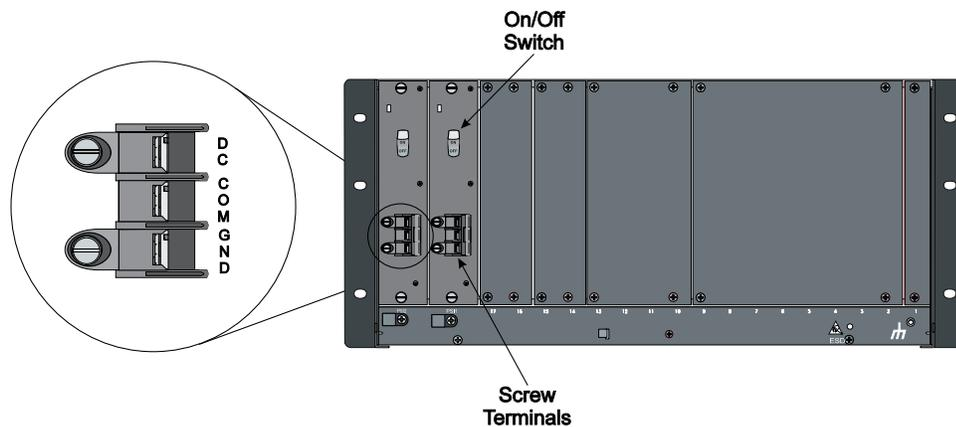

Figure 16. DC Chassis Cabling
- 1** To avoid the risk of shock hazard, make sure the power switches on the DC PSI and on the user supplied DC voltage source are in the off (0) position.
- 3** Remove the plastic cover to expose the terminals. There are three terminals: one DC (-48VDC input), one COM (COMMON or signal ground), and one GND (CHASSIS or earth ground). Each terminal will accept spade or ring lugs, or direct connection with 12 to 16 gage wire. See Figure 16.